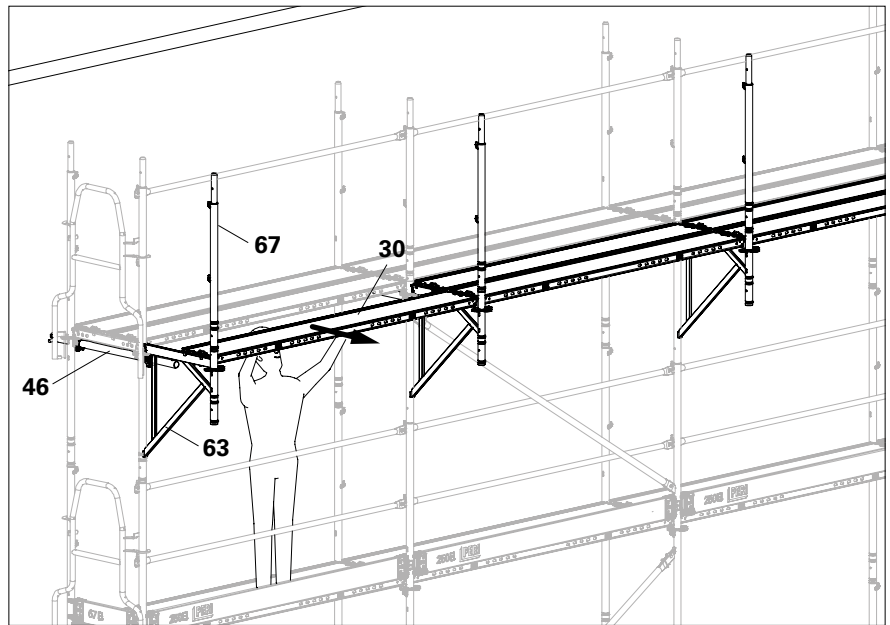

Fig. D2.06
- Anchor each frame column to the inner and outer leg of the vertical frames with a wall tie (**46**). (Fig. D2.06)
- See Section Tie pattern. (Fig. D2.06)